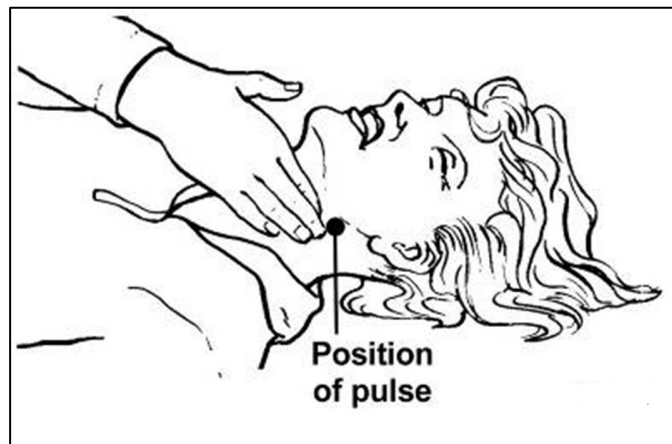

Fig. 3: Position of pulse
11. Check the carotid pulse in the neck (Fig. 3).